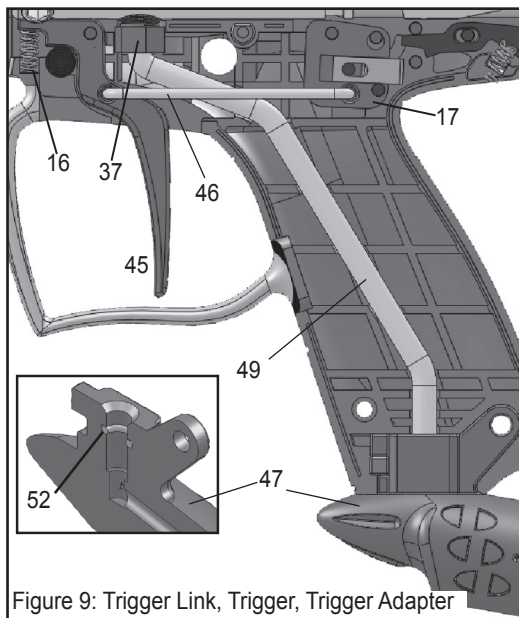

Figure 9: Trigger Link, Trigger, Trigger Adapter
11. Remove the **Air Supply Adapter (ASA)** (47) and **Gas Line** (49) as an assembly from the marker. The Gas Line pulls out of the **Gas Line Joint** (37) attached to the Power Tube. Pull the Gas Line from the ASA if necessary. If the **O-ring** (52) inside the ASA needs to be replaced, use a pick to remove the existing one. Be sure to properly seat the new O-ring as shown in the inset graphic in Figure 9. A little marker oil on the O-ring will make reassembly easier.